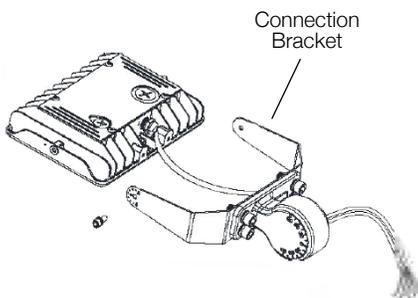

Fig. 2.1
2. Install the connection bracket to the luminaire and pull the wires through the centre hole of the connection bracket (Fig. 2.1).